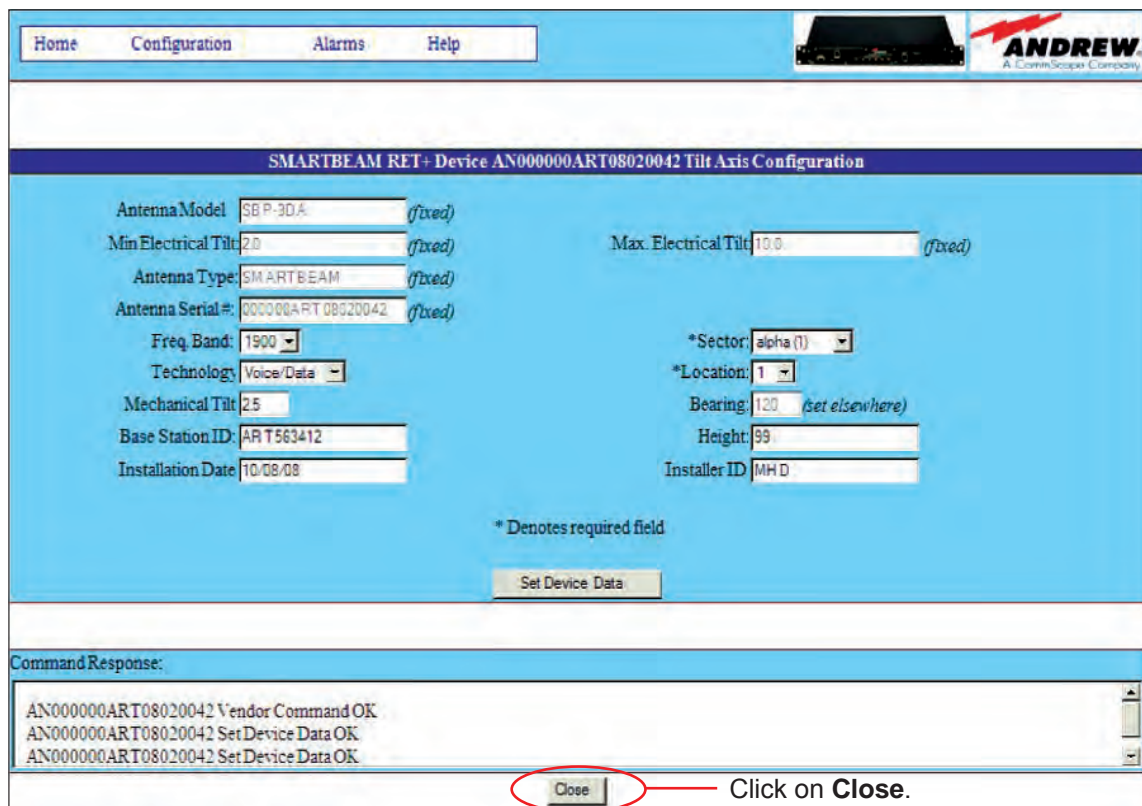

Figure 18-3. Device Configurations Complete.
6. Click on **Close** after the new settings have finished uploading to the device (Figure 18-3).